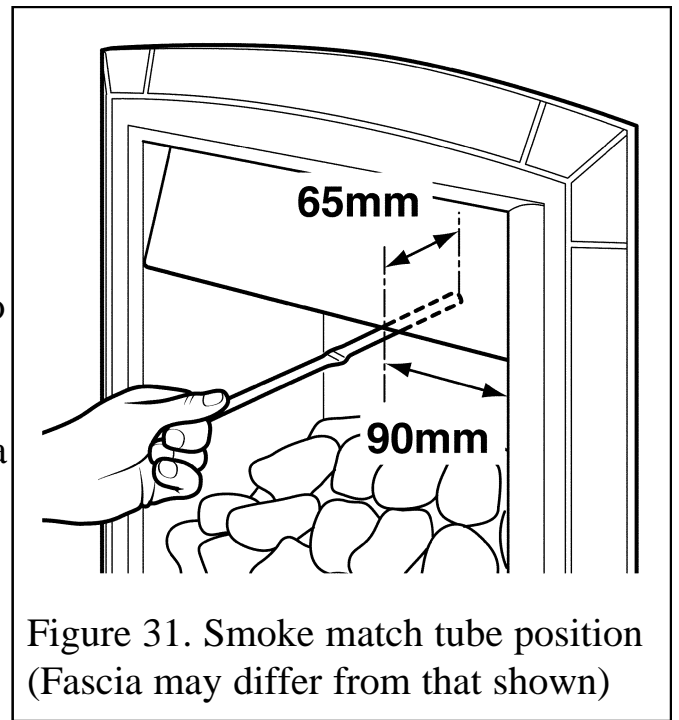

Figure 31. Smoke match tube position (Fascia may differ from that shown)
4. The smoke match should be placed horizontally into the hotbox at the right hand side (See figure 31). The installation is satisfactory if the smoke is drawn into the appliance. If the smoke is not drawn into the appliance leave the appliance alight at the maximum setting for a further ten minutes and then repeat the test. If the smoke is still not drawn into the appliance inspect the sealing to the fireplace surround. If the sealing is satisfactory but the appliance is installed with the flue restrictor (See section 8 point 6)